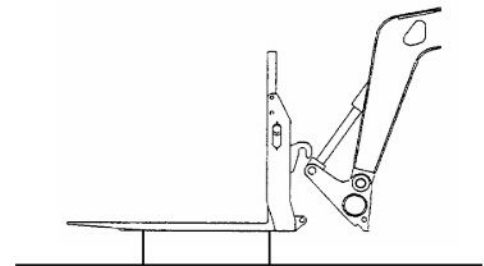

Figure 2-17-2
6. Lower boom, resting the attachment on the ground and tilt subcarriage forward until subcarriage bar is clear of the hooks (see Figure 2-17-2).
3. With subcarriage tilted forward, lower and extend boom so that the quick attach bar is positioned under attachment hooks (see Figure 2-17-2).